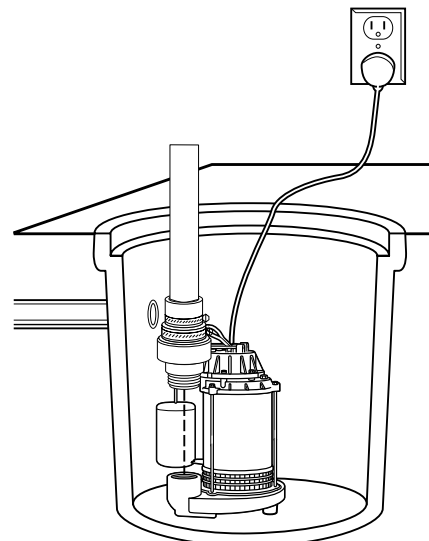

Figure 2 – Submersible Pump Installation
1. Construct a sump pit from concrete, steel, or plastic that is 24" deep and at least 11" in diameter (Figure 2 next page). If the sump already exists, make sure it is the proper size.